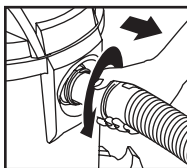

FIGURE 23
32. Unscrew hose locking-nut and remove hose from inlet. **FIGURE 23.**